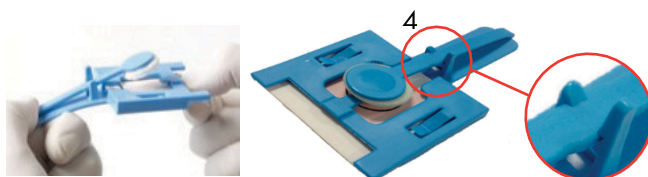

Figure 4. Detaching the foam head from the FTA card.
10. Release the foam head tab by flexing the device (Figure 4).